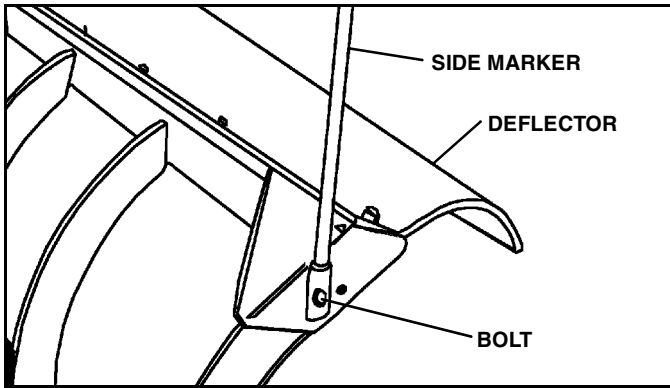

Figure 2-6(Optional)
13. Remove the two (2) 5/16x2" Cap Screws, Flat Washers, and the two (2) Spacers (#96102938) from the parts bag. Install the Center Deflector using the two (2) Spacers, 5/16x2" Cap Screws and Flat Washers removed earlier. Torque to 15 lb.-ft.
15. OPTIONAL: Install Blade Guides (blade side markers) to holes in outside Blade ribs, secure using hardware supplied with Blade Guide Kit. (See Figure 2-6)